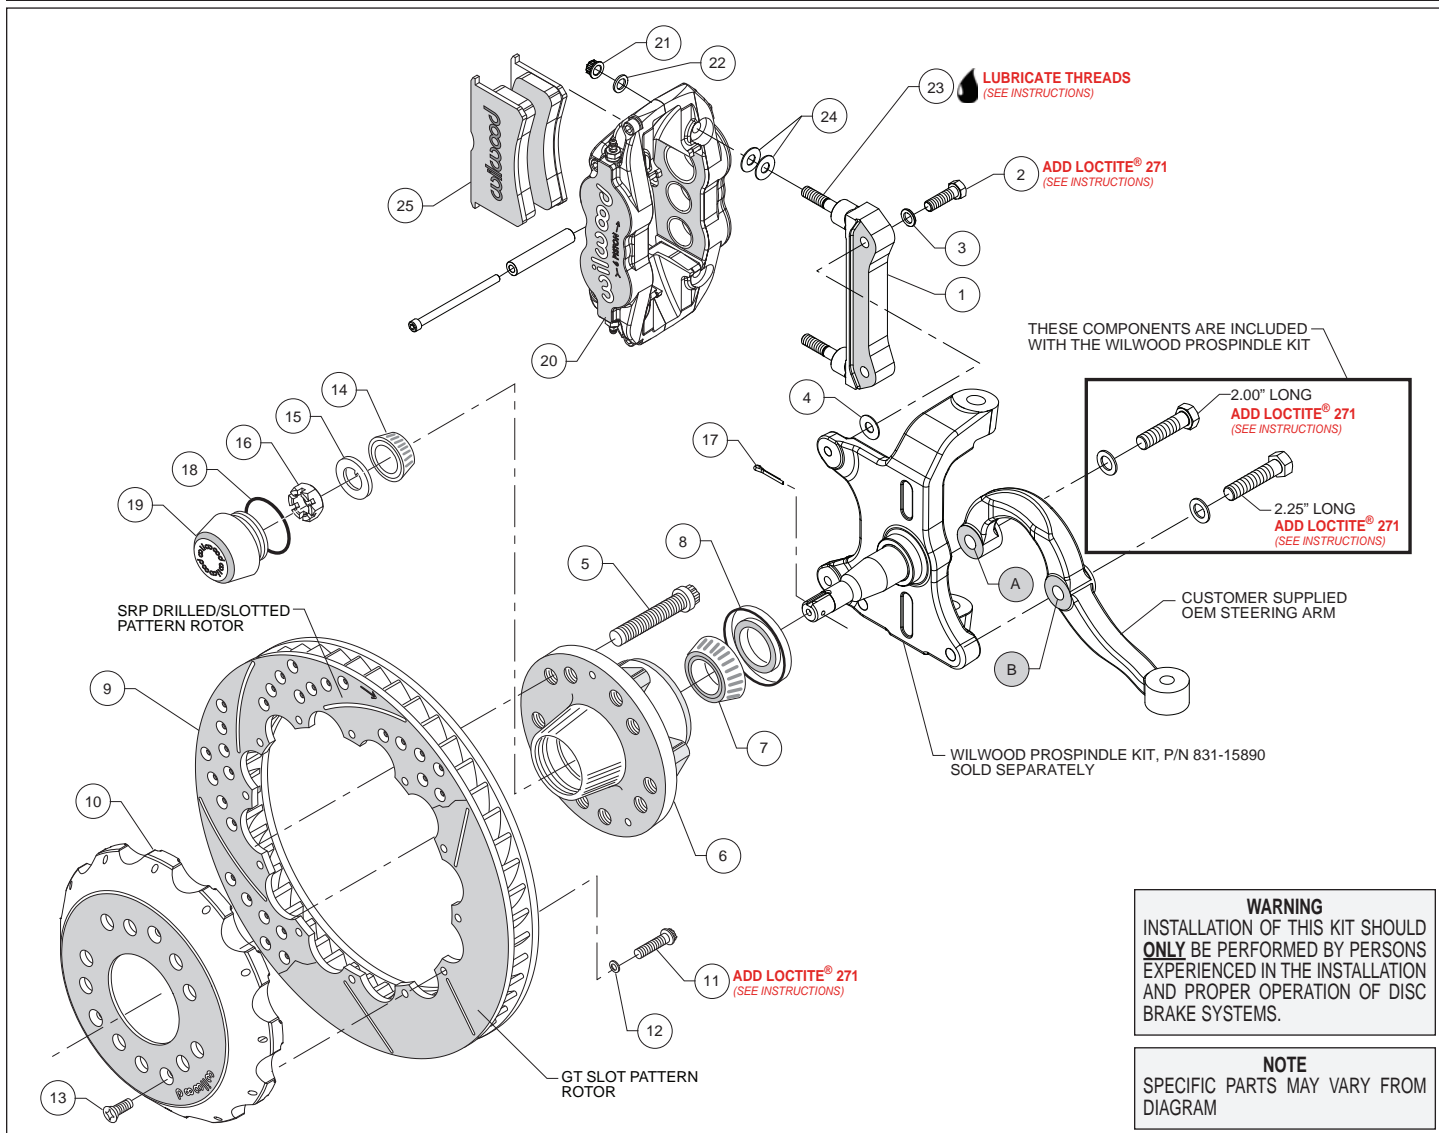
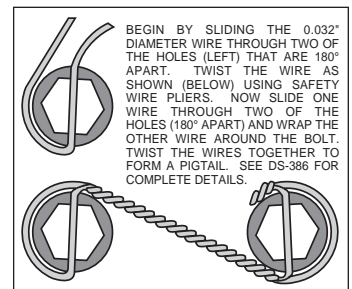

Figure 1. Typical Installation Configuration
Figure 3. Safety Wire Diagram
Assembly Instructions (numbers in parenthesis refer to the parts list on the preceding page, and Figure 1):
•**NOTE:** Wilwood's AFX ProSpindle kit includes bolts and washers to mount the steering arm (customer supplied) to the spindle. The various bolts are identified by length in the following instructions and in Figure 1.
•Orient the steering arm, and identify the hole marked "A" as shown in Figure 1. Attach arm to spindle using 2.00" long bolt and washer (from ProSpindle kit), Figure 1. Finish attaching the steering arm through the hole marked "B", using 2.25" long bolt and washer (from ProSpindle kit), Figure 1. Temporarily tighten the mounting bolts. **NOTE:** The steering arm must fit squarely against the mounting points on the spindle. Inspect for interference from casting irregularities, machining ridges, burrs, etc. Remove bolts one at a time, apply red *Loctite*® 271 to threads, and torque to 77 ft-lb.
•The caliper mount bracket (1) should initially be installed with clean, dry threads on the mounting bolts. Orient the bracket as shown in Figure 1, and install using bolts (2) and washers (3). Initially place one .035" thick shim (4) on each bolt between the bracket and spindle, Figure 1 and Photo 1. Temporarily tighten the mounting bolts. **NOTE:** The bracket must fit squarely against the mounting points on the spindle. Inspect for interference from casting irregularities, machining ridges, burrs, etc. Later, after the caliper alignment has been checked, the mount bolts will be secured using red *Loctite*® 271.
•Install wheel studs (5) into the hub (6), Photo 2. Torque to 77 ft-lb. **NOTE:** There are two five lug patterns in the hub (5 x 4.50 and 5 x 4.75). Ensure the correct hub stud pattern is being used to fit the wheel application.
•Pack the large inner bearing cone (7) with high temperature disc brake bearing grease (available from your local auto parts store) and install into the backside of the hub (6), Photo 3.
•Install the grease seal (8) by pressing into the backside of the hub (6), flush with the end of the hub, Photo 3.
•Pack the small outer bearing cone (14) with high temperature disc brake bearing grease and install into front of hub (6). Slide the hub assembly onto the spindle. Secure using spindle washer (15) and spindle nut (16), Photo 4. Bearing adjustment: Tighten the nut while turning the hub. When there is a slight bind on the bearings, they are seated correctly. Back the nut off about 1/6 to 1/4 of a turn, or sufficiently to allow .001" to .007" end play. **WARNING:** Failure to back off adjusting nut could cause bearing to run hot and be damaged, which could cause the wheel to lock or come off. Install a new cotter pin (17).
•Screw dust cap (19) into hub (6). Friction created by the o-ring (18) on the dust cap keeps it from unscrewing. **NOTE:** The O.D. of the existing OEM spindle washer may be larger than the I.D.
- Orient the rotor (9) and the hat (10) as shown in Figure 1 and Photo 5. Attach rotor to hat using bolts (11) and washers (12). Using an alternating sequence, apply red *Loctite*® 271 to the threads and torque bolts to 155 **in-lb**. For an added measure of security, the bolts may be safety wired using standard 0.032 inch diameter stainless steel safety wire as shown in Figure 3. Refer to Wilwood's data sheet DS-386 (available at www.wilwood.com/Pdf/DataSheets/ds386.pdf) for complete safety wire installation instructions.
- Slide the hat/rotor assembly (10 and 9) onto the hub (6) taking care to align the small countersunk holes in the hat with the small threaded holes in the hub. **NOTE:** *The hat must fit flush against the hub face or excessive rotor run out may result.* Install three flat head screws (13) through the small holes in the hat, Photo 6, and torque to 85 **in-lb**.
- **NOTE:** *This kit contains distinct right and left hand calipers that must be mounted in a specific direction, as described below.* Lubricate the caliper mounting studs (23) with lightweight oil. Initially place two .035" thick shims (24) on each stud between the caliper and the bracket, as shown in Figure 1 and Photo 7. Mount the caliper (20) onto the bracket (1) using lock nuts (21) and washers (22), Figure 1. Ensure that the caliper is mounted so the largest pistons are at the rotor exit end of the caliper, in relation to the direction of rotor rotation. Temporarily tighten the lock nuts and view the rotor through the top opening of the caliper. The rotor should be centered in the caliper, Photo 8. If not, adjust by adding or subtracting shims (4) between the bracket and the spindle. Always use the same amount of shims on each of the two mounting bolts. Once the caliper alignment is correct, remove the bracket mounting bolts (2) one at a time, apply red *Loctite*® 271 to the threads, and torque to 40 ft-lb.
- Remove the caliper center bridge pad retainer bolt, nut, and tube from the caliper. Insert the brake pads (25) into the caliper, with the friction material facing the rotor, as shown in Photo 9. Check that the top of the brake pad is flush with the outside diameter of the rotor, Photo 10. If not, adjust by adding or subtracting shims (24) between the caliper and the bracket. After the caliper pad height is set, torque the caliper lock nuts (21) to 30 ft-lb. Secure the brake pads in place with the center bridge pad retainer tube, bolt, and locknut, Photo 11. The locknut should be snug without play in the bolt or tube. Be cautious not to over tighten.